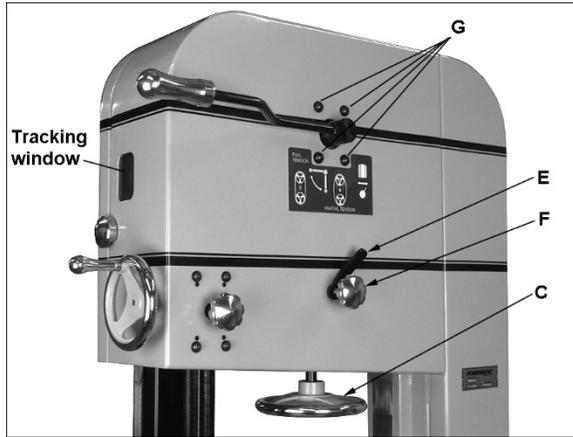

Figure 24: blade tension/tracking
Refer to Figure 24.
3. With blade centered on wheels, move quick tension lever to "Full Tension" position, as shown in Figure 24. NOTE: You will be able to feel the lever fall into each position.
4. Rotate tension handwheel (C, Figure 24) until scale pointer (Figure 25) reaches appropriate measurement for blade width.
4. Set quick tension lever to "Full Tension" position, as shown in Figure 24.
**IMPORTANT:** Make tracking adjustments with knob (F, Figure 24) while blade is at full tension. DO NOT use screws (G, Figure 24); these were used by the manufacturer for wheel alignment and should NOT be used for tracking.
6. If blade tends to move toward edge of wheel, loosen locking lever (E, Figure 24) and slightly rotate tracking knob (F) with your right hand while continuing to rotate wheel with your left. Observe blade through tracking window. Rotate tracking knob clockwise to move blade toward rear edge of wheel. Rotate counterclockwise to move blade toward front edge of wheel.
7. When blade is tracking in center of wheel, re-tighten locking lever (E), and close upper door.